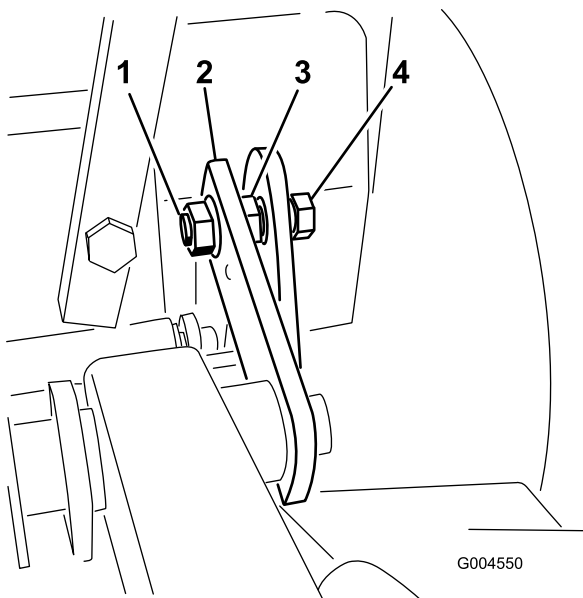

Figure 53
9. Adjust the bolts so the end of the bolt is flush with the nut. This will allow the bushing to roll in the slot in the mower deck bracket (Figure 53).